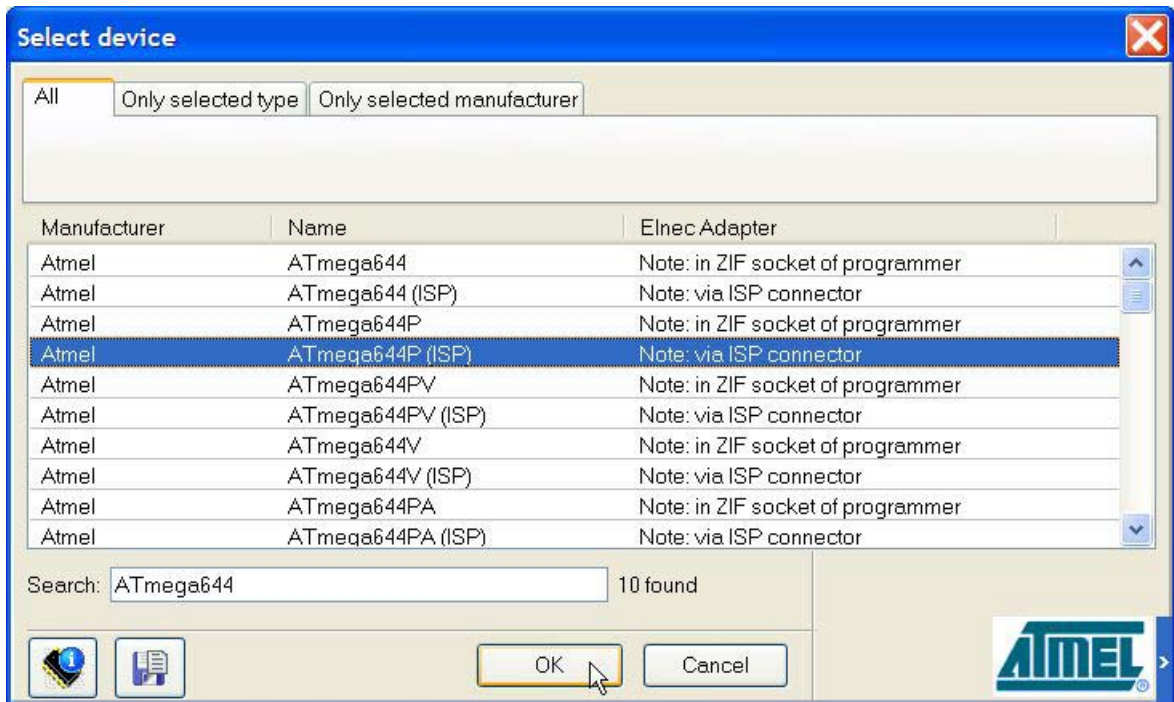

FIGURE D12: PG4UW DEVICE SELECTION
- g) Choose the *Component/Select component* menu and select the device that needs to be programmed, alias the *Atmega644P* in ISP mode, as it is shown in the figure D12.